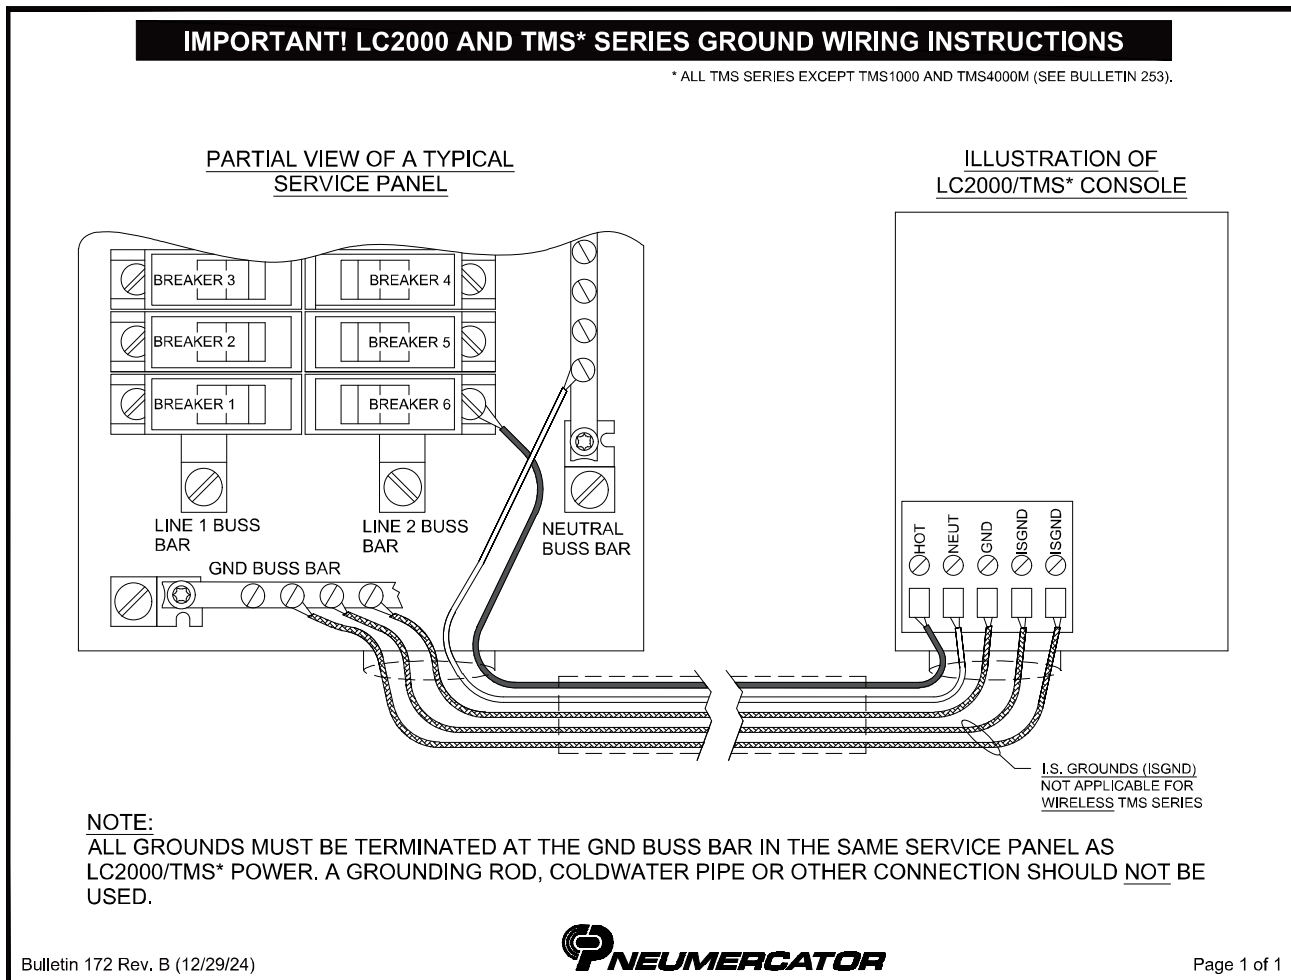

Figure 3-3 – LC2000 AC Power Wiring
2. The LC2000 **MUST** be wired to a dedicated circuit breaker for intrinsically safe applications. This is an NEC code requirement for intrinsically safe apparatus. Wire in accordance with Figure 3-3 LC2000 AC WIRING.
3. The TWO (2) Intrinsically Safe (IS) grounds designated on the AC terminal block **MUST** be connected to EARTH GROUND at the service panel providing AC power. Connection must be made using 12AWG wiring providing a resistance to ground no greater than 1 ohm. Refer to Figure 3-3 LC2000 AC WIRING.